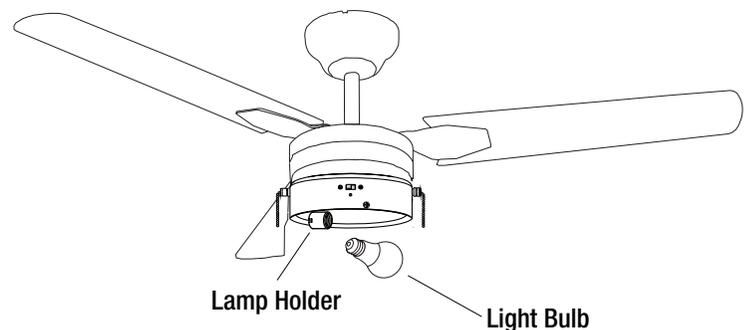

Figure 15
- Install a light bulb (max. 9.5W, LED, medium screw base) to the lampholder (Figure 15).